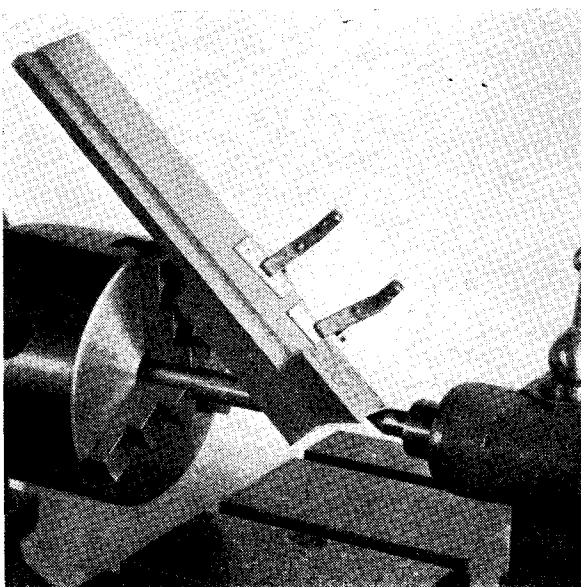

Fig. 28. Method of locating the drill slide on the table in the zero position
The next step is to mount the drill slide on the table in the zero position; that is to say, with the centre-line of the V and also the point of a drill of zero diameter both coinciding with the axis of the table pivot (H). This can readily be done, as illustrated in Fig. 28, by gripping the table pivot in the chuck and bringing up the back centre to indicate the axis of the pivot.